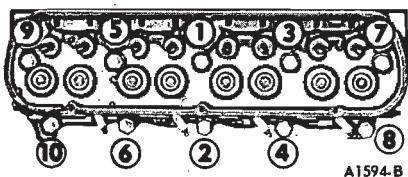

FIG. 26—Cylinder Head Bolt Torque Sequence
3. The cylinder head bolts are tightened in three progressive steps. Torque all the bolts in sequence (Fig. 26) to 50 ft-lbs., then to 60 ft-lbs. and finally to specifications. When cylinder head bolts have been tightened following this procedure, it is not necessary to retorque the bolts after extended operation. However, the bolts may be checked and retorqued if desired. If working on a 351-W V-8, install the exhaust manifolds and torque the attaching bolts to specification.